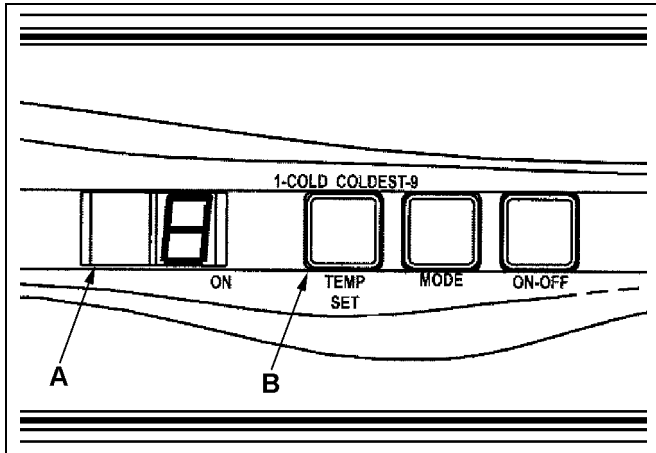

Figure 9-13 –Select Temperature Setting
- Push the “TEMP SET” button (B) and the current setting will show in the display (A). See figure 9-13.
- Push and hold the “TEMP SET” button (B) until the desired setting is shown in the display (9 is the coldest setting) and then release button.